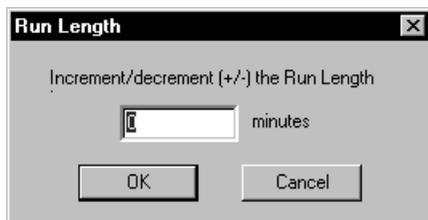

Figure 5-9. The Run Length window.
1. Click the **Full Run Time** button in the status bar of the Instrument Control Manager window. The Run Length window appears (figure 5-9).